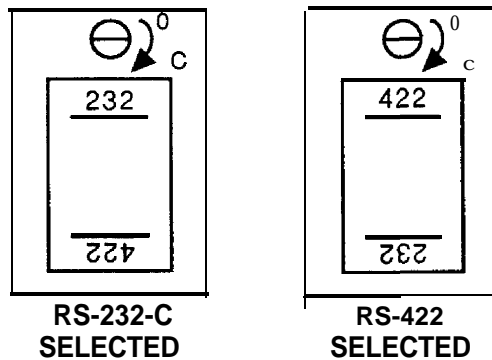

Figure 3.2 RS-232/RS-422 HYBRID DIP PACKAGE (FOR PORT 2)
- Check the RS-232/RS-422 DIP package orientation -- for Port 2 only. (Reference Figure 3.2)
The RS-422/RS-232 hybrid DiP package affects the operation of port 2 only. Verify the position of the configuration hybrid DIP package located between ports J1 and J2. It is marked "232" on one end and "422" on the other end and is mounted in a zero insertion force socket. Use a small screwdriver to turn the screw which releases the hybrid DIP package from the socket. Position the package with the desired interface type (RS-232 or RS-422) closest to port J 1 See Figure 3.2 for proper package orientation.